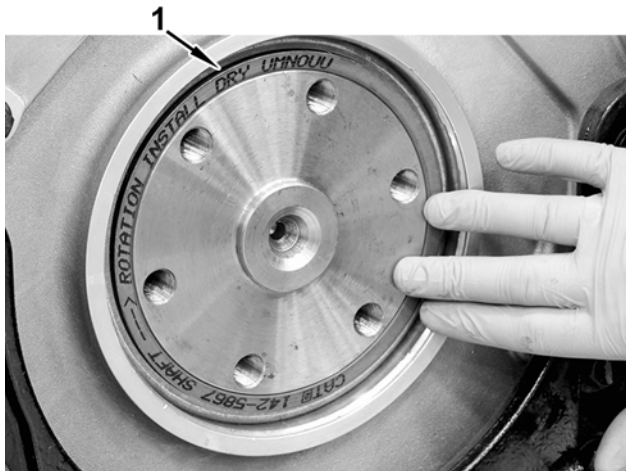

Figure 27 Seal Seated
32. Remove tools and inspect to ensure seal is properly seated (Figure 27, Item 1).